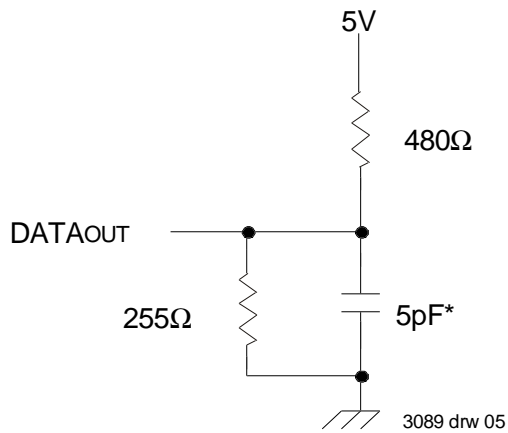

Figure 2. AC Test Load
- This parameter guaranteed with the AC Load (Figure 2) by device characterization, but is not production tested.
- This parameter guaranteed with AC Load (Figure 2) by device characterization, but is not production tested.